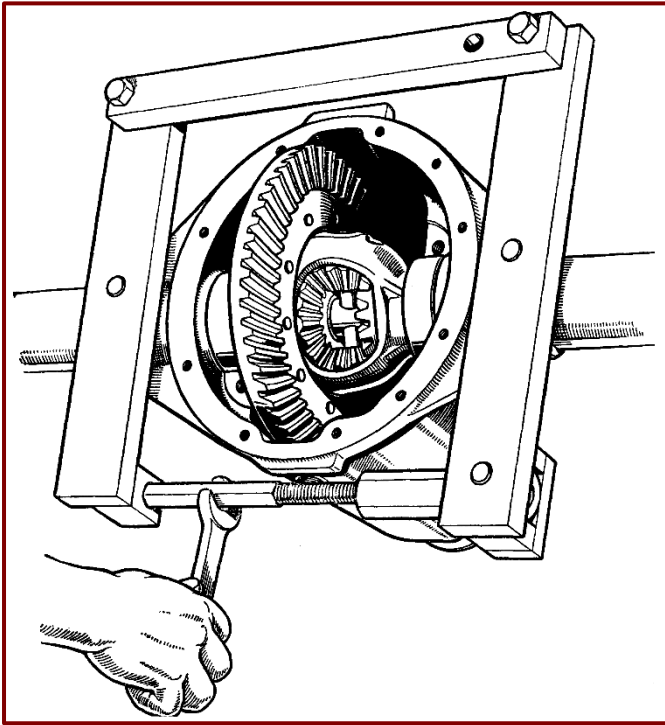

Figure 48. Stretching Axle Casing in order to remove Differential Assembly.
4. Before attempting to remove the differential assembly, fit the stretching fixture, Tool No. SE.104 as shown in *Figure 48*. The fixture should be adjusted to suit the model being serviced, a series of holes being provided in the member opposite the turnbuckle for this purpose. Open the fixture by means of the turnbuckle until it is hand tight, then spread the case by using a spanner. DO NOT OVER-SPREAD, OR THE AXLE CASING WILL BE DAMAGED BEYOND REPAIR. The correct spread does not exceed a half turn on the turnbuckle, and this figure should not be exceeded even if the differential is still stiff to remove.
7. To facilitate installation of the differential assembly, fit the stretching fixture, Tool No. SE. 104 as shown in *Figure 48* (Ref. operation 2 in 'To Dismantle Differential Unit with Service Tool'). Stretch the gear carrier, being sure not to exceed the half turn specified on the turnbuckle or the axle casing will be damaged beyond repair.